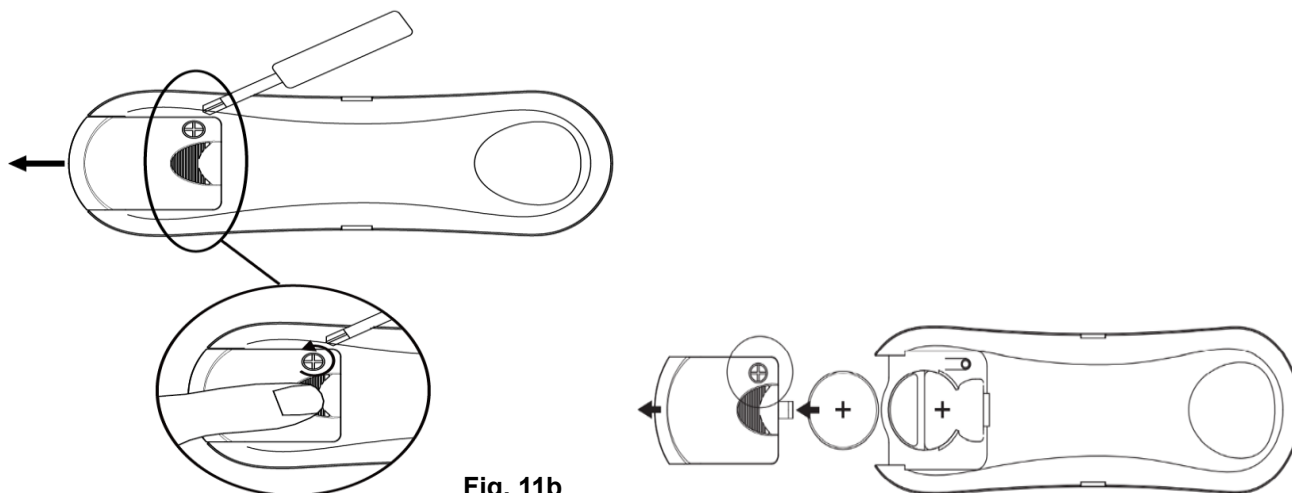

Fig. 11b
2. Slide to remove the battery compartment cover from the back of the remote, to access the battery (Fig. 11b)